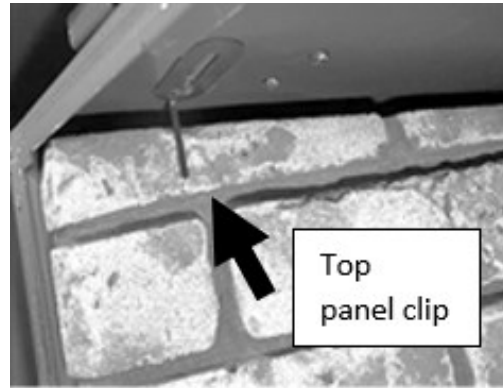

Figure 9.6, Top panel clip
2. Install side refractory by sliding top of panel up and into position. The front of the panel will sit on top of the refractory panel spacer. Secure with panel clips previously bent (Figure 9.6).
4. Install top refractory clips previously bent (Figure 9.6).